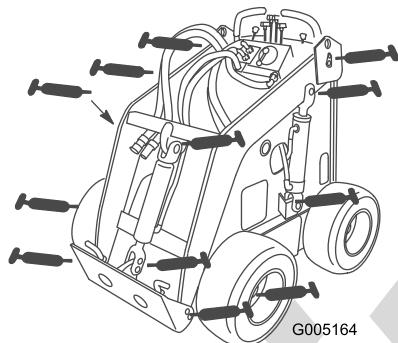
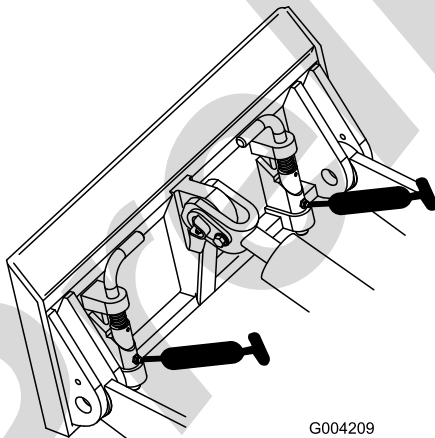

Figure 17
Figure 18
3. Connect a grease gun to each fitting (Figure 17 and Figure 18).